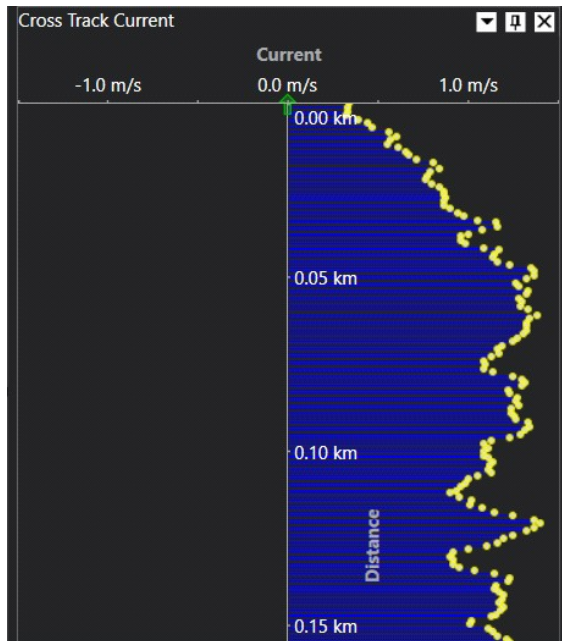

Figure 63: The cross track current window
Figure 63 shows the cross track current window. It shows the component of the current perpendicular to the ship's track. The positive direction is a current component from left to right across the track (facing in the direction of travel).
- The current value that shows in the top axis is the value that corresponds to the cursor location, not the cross track current value at the selected distance. (On-screen you can see this better, as a vertical line goes through the cursor position and ends at that value. This line, and the cursor itself, do not show in the screenshot of figure 63.)